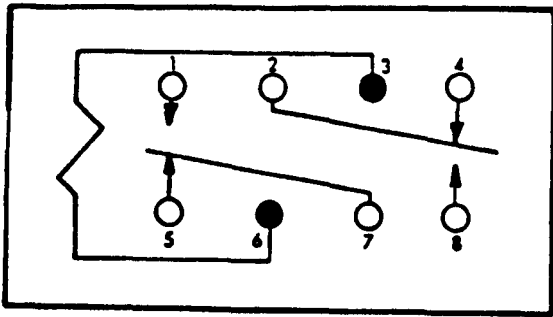

Figure 4-33.1. Relay K1. Internal Connection Diagram
(3) Relay Assembly (A1). Inspect relay assembly (5) for physical damage. Check that electrical connections to assembly are clean and tight. Check that assembly is securely attached to control cubicle.
(4) Relay (K1). Inspect relay (6) for physical damage and continuity (see figure 4-33.1). Remove relay from socket and inspect for bent or missing pins. Check that relay is secured to socket with two screws.